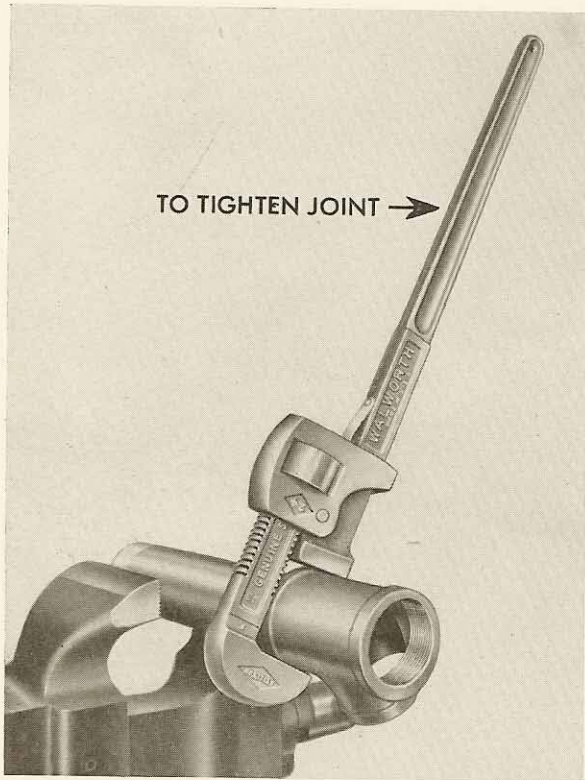

FIGURE 8-30
46. PIPE WRENCHES: Wrenches for turning pipe (also called Stillson wrenches) have roughened jaws and a moveable inside jaw that grips the pipe when the wrench is applied as shown in Figure 8-30.